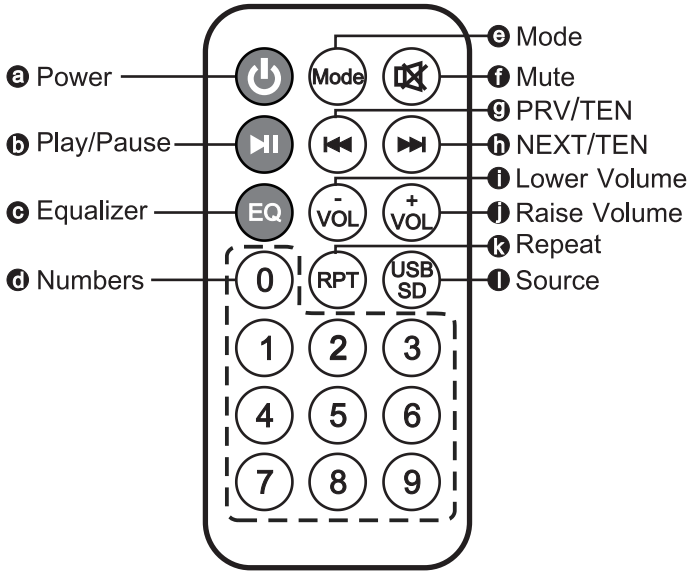

Fig. 28
3. USB Remote Controls and Indicators, Fig. 28: